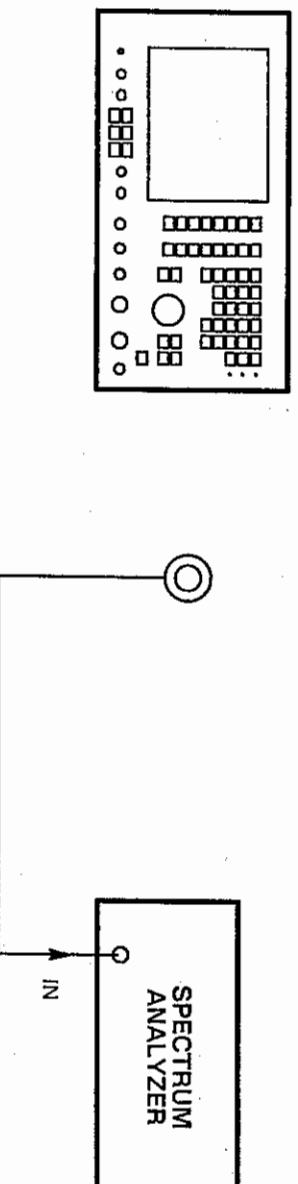

Fig. 6-26 Test equipment connections for RF generator RF leakage
- (1) Connect the spectrum analyzer to the loop. Connect the load to the RF IN/OUT BNC socket. See Fig. 6-26.